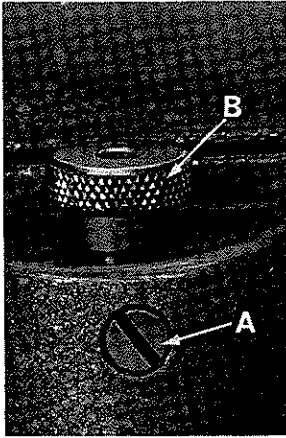
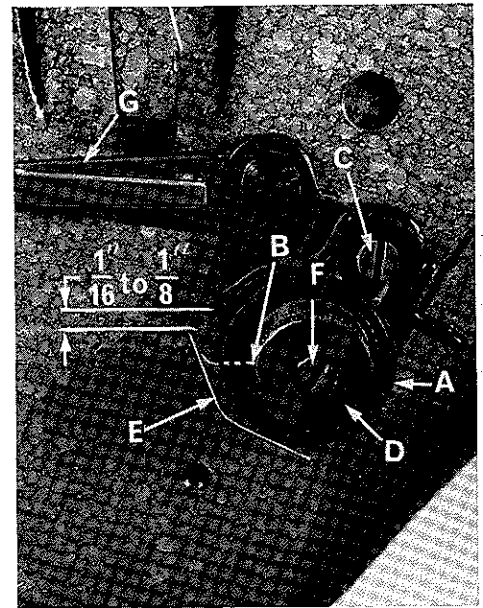
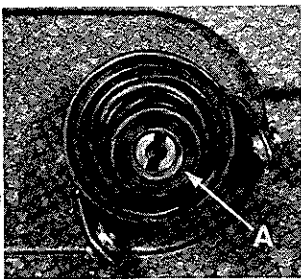

Fig. 12
Fig. 19
Fig. 20
Fig. 12 illustrates the stitch regulator. For timing the hooks, it is recommended the regulator be turned to produce shortest stitch length. To do this, loosen lock screw (A) and turn the stitch regulator (B) counterclockwise as far as possible. Lock in position by tightening lock screw (A).
The take-up spring barrel (A, Fig. 19), which controls the needle thread should be set so that the lower spring stop is at the 9 o'clock position as shown (B, Fig. 19). Loosen screw (C) and turn barrel (A) immediately behind locknut (D) to make this adjustment. This recommended position for the barrel should be approximately correct for first sewing trials. Ultimately, the take-up spring barrel should be adjusted so that there is about 1/16 to 1/8 inch movement of the check spring (E) as the needle thread passes around the 6 o'clock position of the hook.
Set the front frame needle thread eyelet (G, Fig. 19) in its lowest position parallel with the cloth plate.
By sewing trials, adjust the needle thread tension (A, Fig. 20), check spring pressure, position barrel (A, Fig. 19) and set the stitch length (B, Fig. 12) to required specifications.